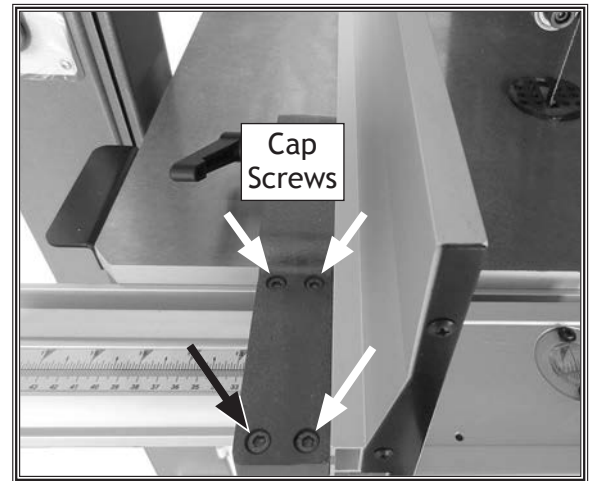

Figure 89. Location of fence adjustment cap screws.
5. Loosen the four fence adjustment cap screws to the left of fence face (see **Figure 89**), skew fence so that it is parallel with wood board, contacting it evenly along its length, then retighten cap screws.